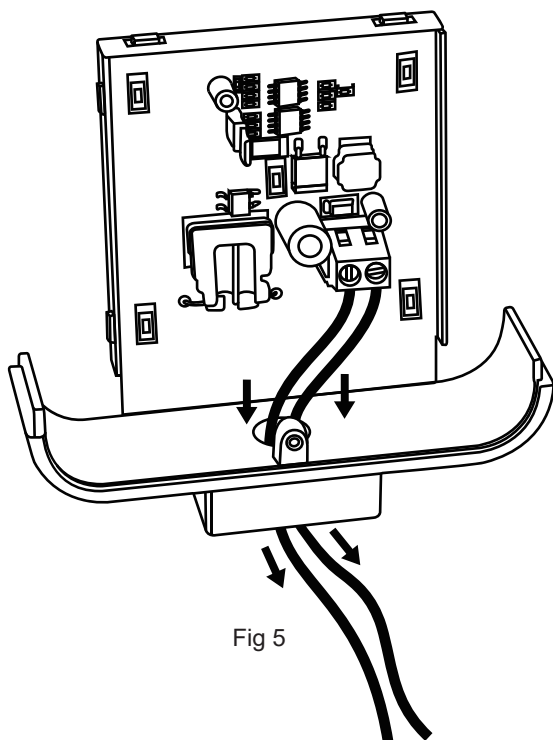

Fig 5
6. Connecting the power supply cables with terminal, and run them coming from the control panel through the black base's hole Fig 5.